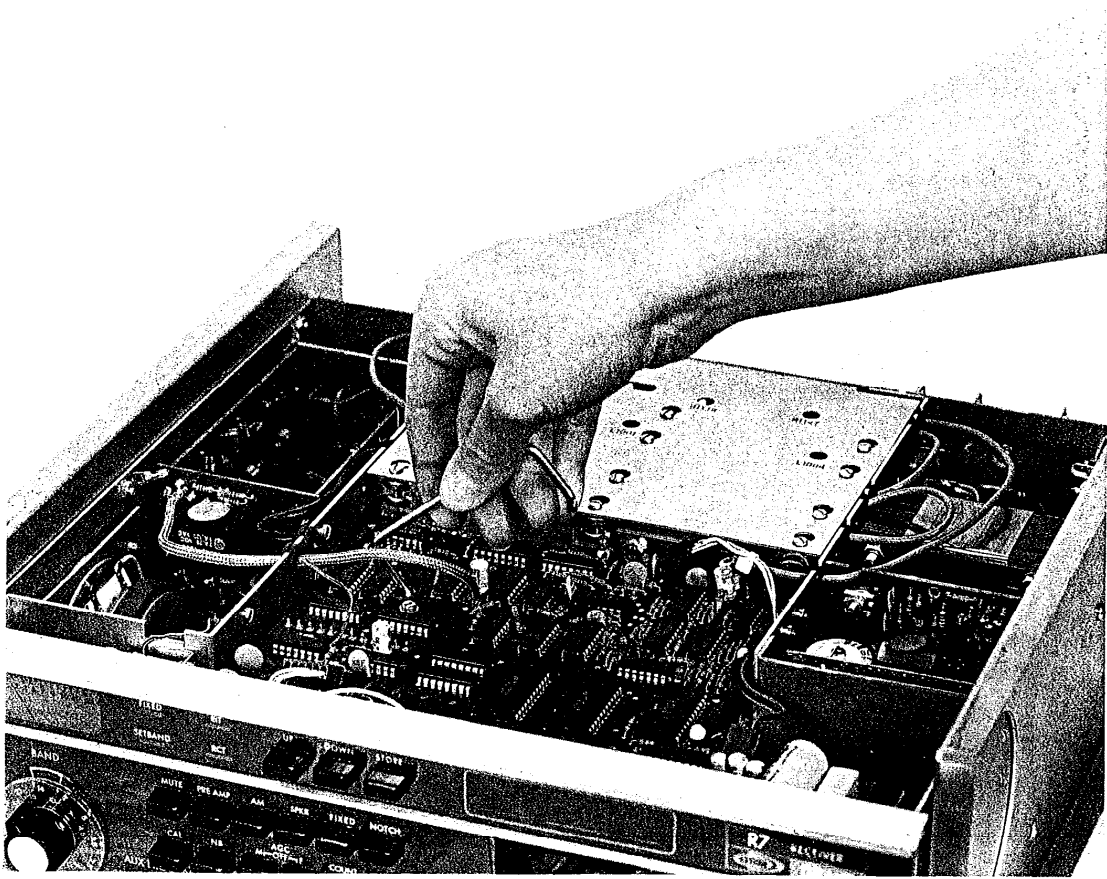

Fig. 4-1 DR-7 Removal
The DR-7 provides two major functions for the R7 — full receiver coverage from 10 kHz-30 MHz and digital frequency display. The two sections are completely independent. A failure in one section will not usually affect the other. A careful observation of the symptoms and a few measurements will isolate the fault to a major section. See table 4-1 before removing DR-7. Refer to figure 4-1 for the parts location and figure 4-2 for the schematic.
DR7 REMOVAL (Refer to Pictoral Fig. 4-1)
1. Unplug (5) five connectors (P1 through P5) from the DR7 board. Position cables carefully so that they will be free of the DR7 Board when it is lifted out. Remove the retaining screw and lockwasher (adjacent to U9006).
3. Using the card puller supplied with the radio, hook one end under the front edge of the large hole adjacent to U9008 (shown in figure 4-1). Grasp the tool and pull upwards firmly, but slowly, to disengage one 12 pin, one 9 pin and two 3 pin connectors. Once the connectors have been disengaged, remove the card puller.